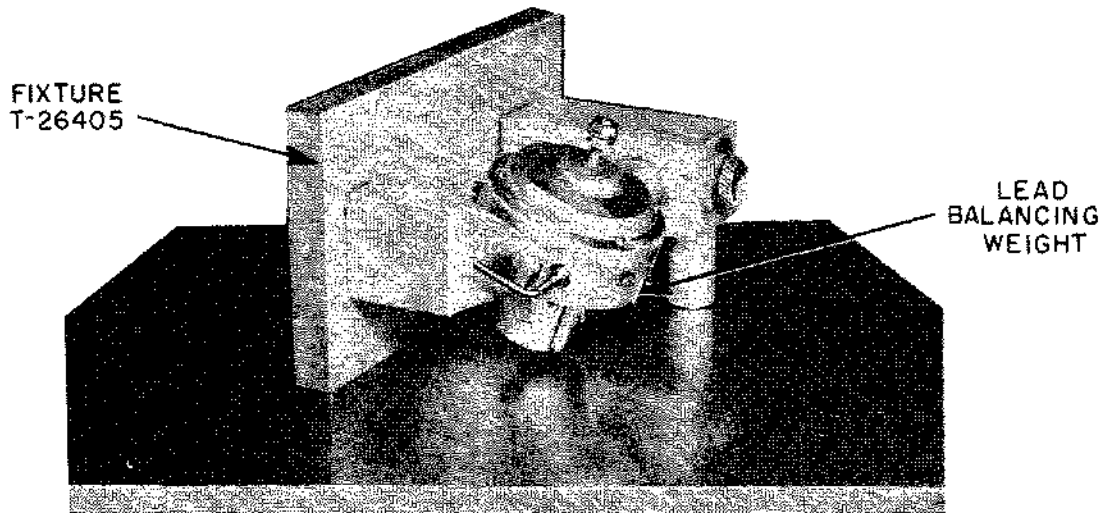

FIGURE 39 BALANCING THE GYRO HOUSING AND PENDULUM ASSEMBLY, VERTICAL POSITION (GYRO-HORIZON WITH CAGING DEVICE)
3. Place gyro-housing and pendulum assembly in fixture T-26405 and screw in adjusting screw until assembly is free to turn without binding and without end play. Place fixture T-26405 on its side as shown in Fig. 39.